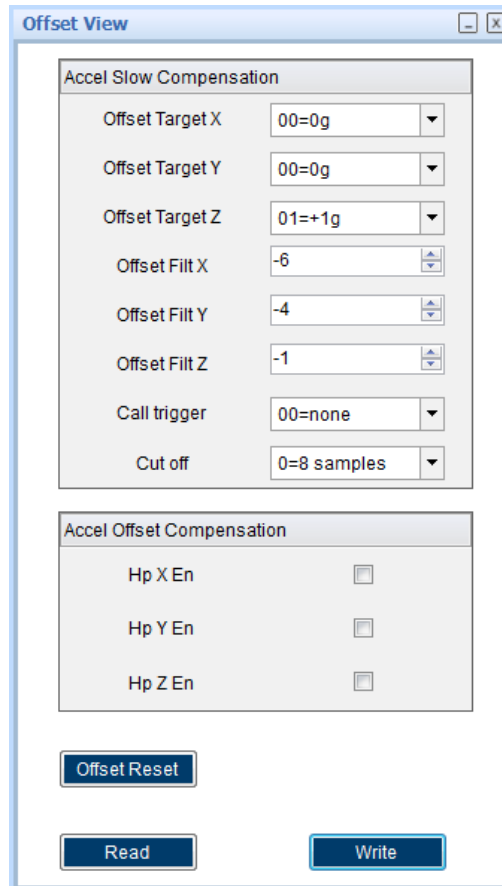

Figure 4 Offset view of DD2.0 SW
- (1) In DD2.0 SW, go to “Offset View” as shown in Figure 4.